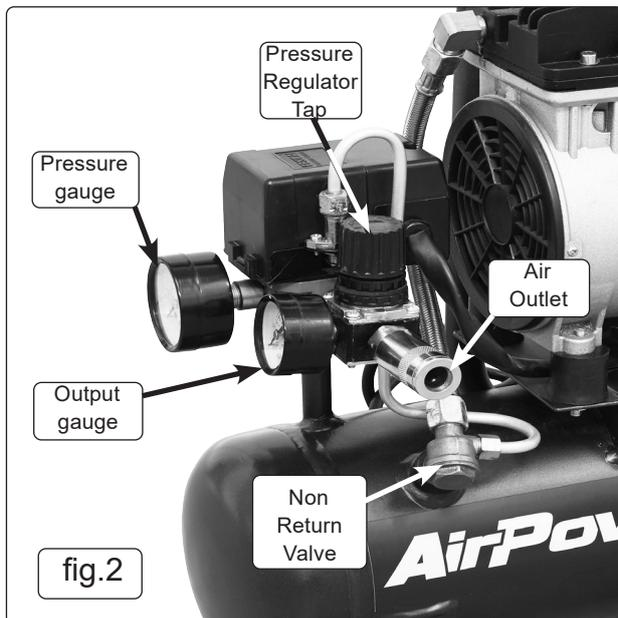

fig.2
- 5.3. Close the outlet pressure regulator by turning the knob clockwise (See fig.2).
- 5.4. Connect the air tool required to the compressor via an air line connected to the air outlet (See fig.2).
- 5.6. Allow the pressure in the tank to rise to the maximum at which point the compressor will automatically cut out. Tank pressure is shown on the larger gauge (fig.2).
- 5.7. Begin to gradually open the regulator by turning the knob anticlockwise until the small gauge registers the required operating pressure specified for the tool to be used. Always adjust up to the required pressure rather than down from a higher pressure. The required setting, once achieved, can be locked by screwing the locking ring (See fig.2) up tight underneath the adjusting knob.
- 5.8. You can now begin to use the tool. The compressor will operate automatically cutting in and out as required to restore the air pressure in the tank. The pressure switch (fig.2) stops the motor when the maximum tank pressure is reached and restarts it when pressure falls below the minimum threshold - approx. 2 bar (29psi) less than the maximum pressure.
- b) The main gauge (fig.2) indicates the pressure inside the main tank, NOT the pressure supplied to the air equipment, which is shown on the smaller gauge (fig.2). Should the pressure in the main tank exceed the pre-set switch (fig.2) maximum, the pressure relief valve (fig.3) will activate.